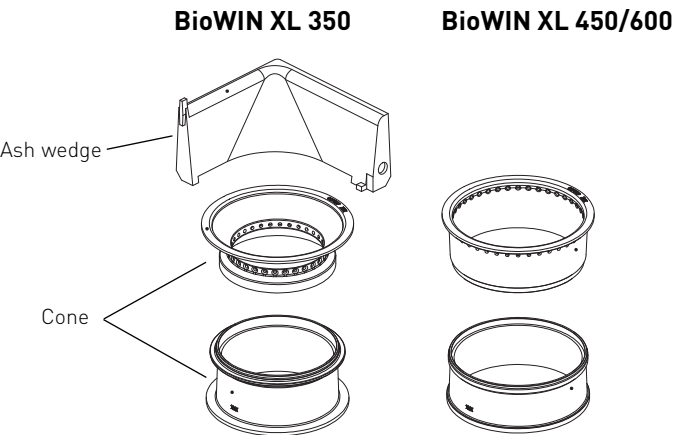

Fig. 67 Fit cone and ash wedge (with BioWIN XL 350 only) in / on burner pot.
- Place the cone in the burner pot – Fig. 67.